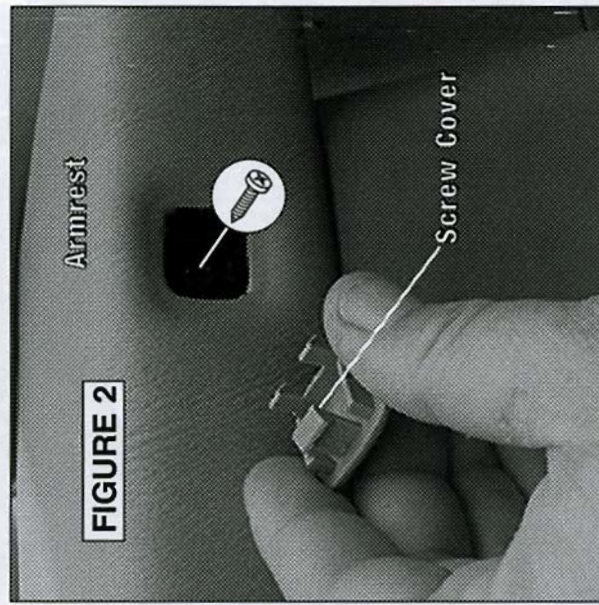

FIGURE 2
2. Pry out **screw cover** in armrest. Remove one (1) exposed phillips screw (Figure 2).